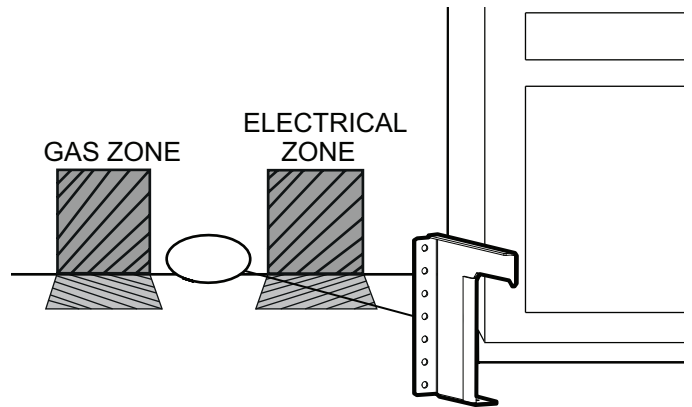
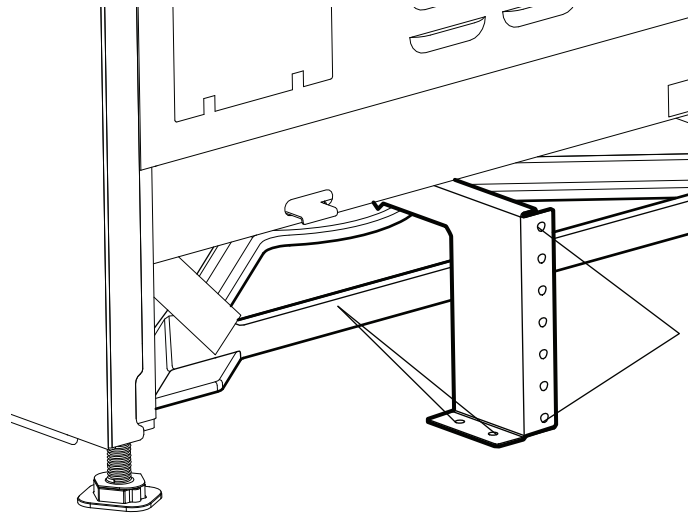

Figure 12: Anti-tip Bracket Mounting Location
Figure 13: Anti-tip Bracket
- At least (2) of the bracket mounting screws must firmly fasten the anti-tip bracket to the floor, and (2) of the mounting screws (or drywall anchors) must firmly fasten the anti-tip bracket to the rear wall (see *Figure 12* and *Figure 13*).
1. Place bracket on floor near the center of where the unit is to be finally located (*Figure 12*).
2. Secure bracket into the wall stud using (2) mounting screws or drywall anchors, as appropriate (*Figure 13*).
3. Secure the bracket to the floor using the screws provided (*Figure 13*).